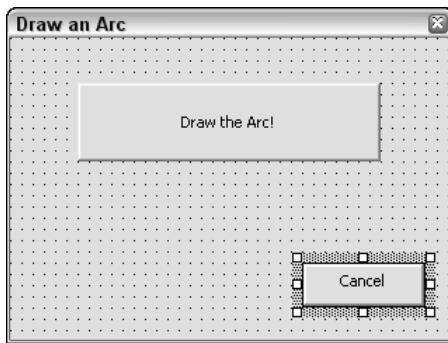

Figure 37-11: A simple dialog box created in VBA
8. Change the Caption property of the smaller button to Cancel. Change its name property to cmdCancel. Your dialog box should look like the one in Figure 37-11.